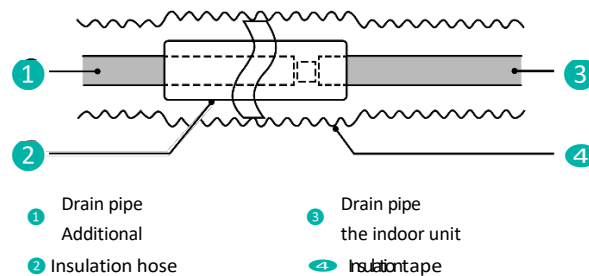

Fig. 4.3.1
- 6 Install the drain pipe as shown in Figure 4.3.1 and install insulation on the drain pipe. Improper installation can cause water leaks and dampen furniture and other items in the room.